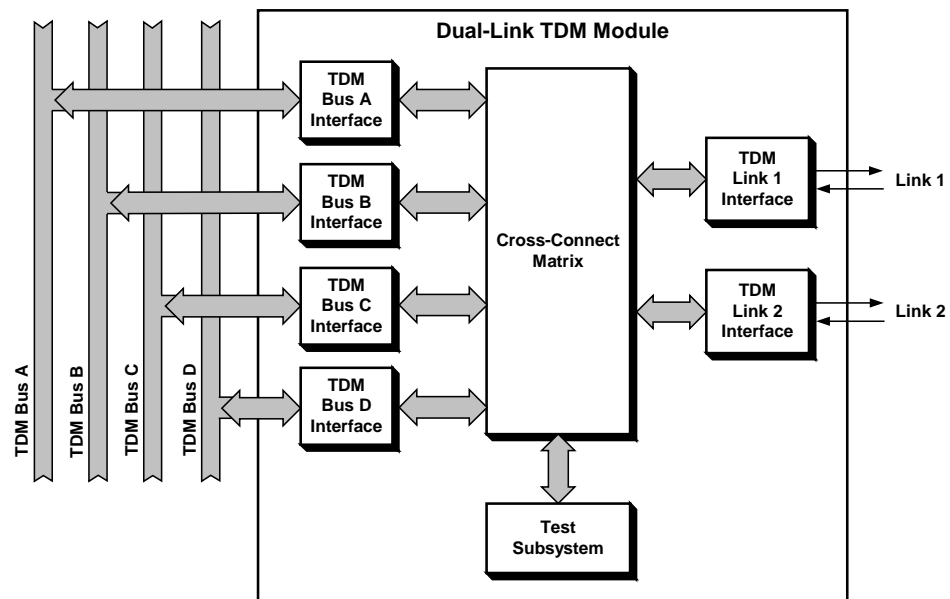

Figure 1-10. Typical Dual-Link Main Link Module, Functional Block Diagram
*Figure 1-10* shows the functional block diagram of the Megaplex system.
The flow of data is performed through a set of TDM buses, as shown in Figure 1-10: